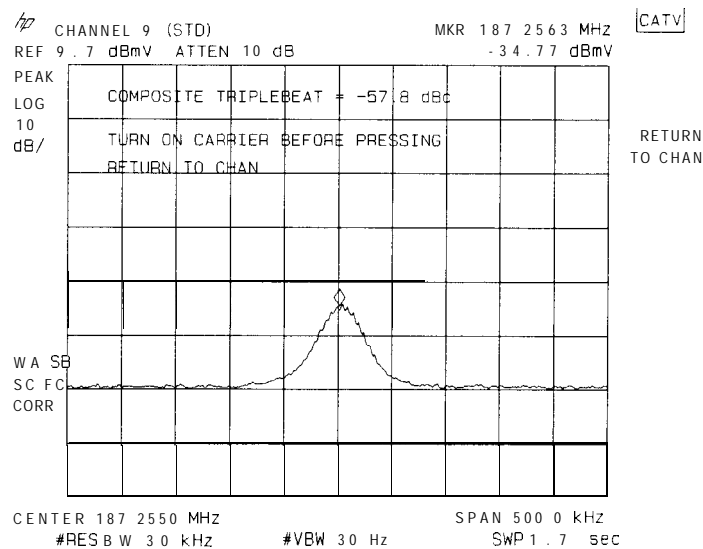

Figure 2-11.
3. Press CTB CONTINUE . The result appears as shown in Figure 2-11.